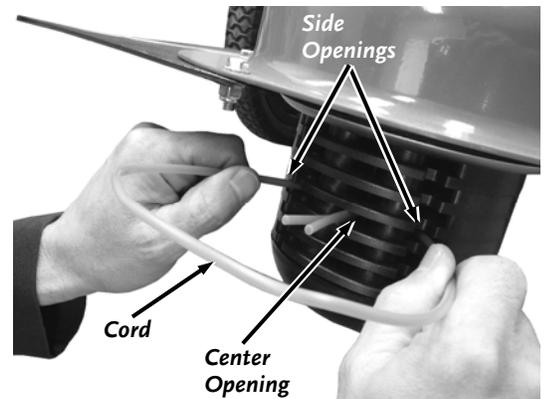

Figure 19
1. Insert the ends of the Cord into the side openings in the Line Plate (**Figure 19**).